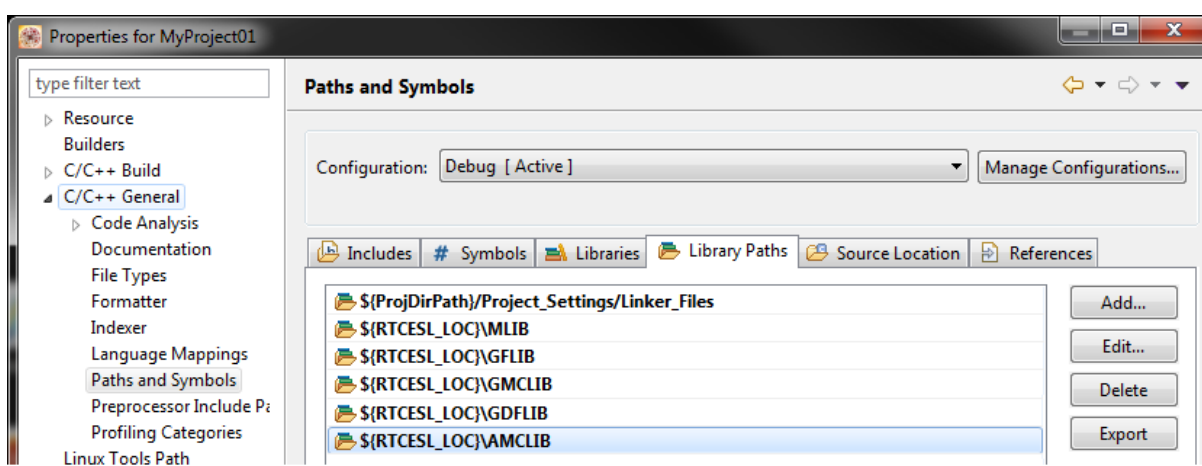

Figure 1-18. Library paths
3. In the right-hand dialog, select the Library Paths tab. See Figure 1-18.
14. Click OK, and the paths will be visible in the list. See Figure 1-18.